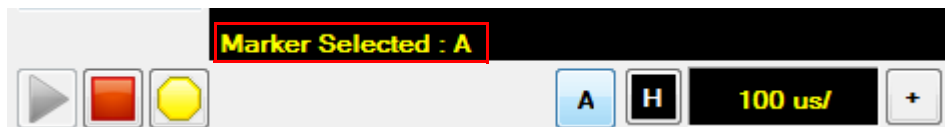

Figure 2-116 Marker indicator on the graphical interface
- 2 When selecting or toggling between markers, the marker indicator is displayed on the graphical interface as shown in Figure 2-116.